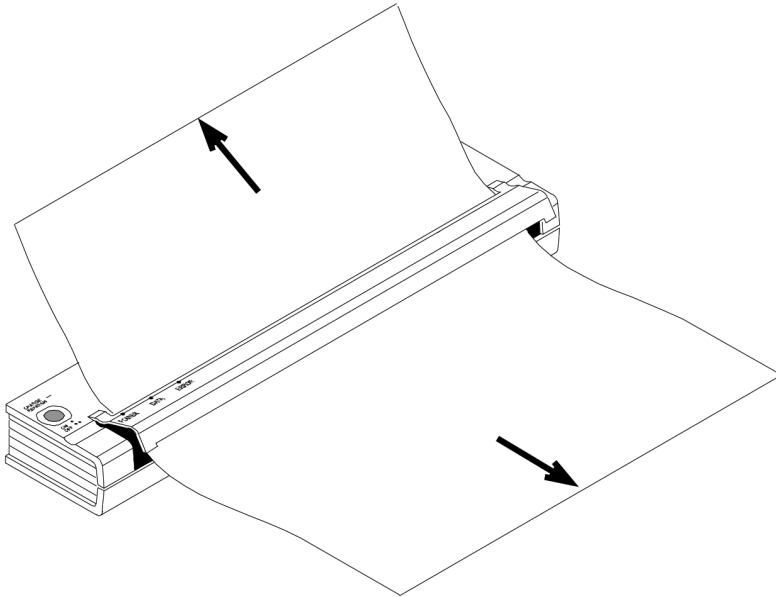

Figure 16. Pulling jammed paper out of the printer
2. Gently pull the paper out of the printer. Pulling in either direction is acceptable. See Figure 16.